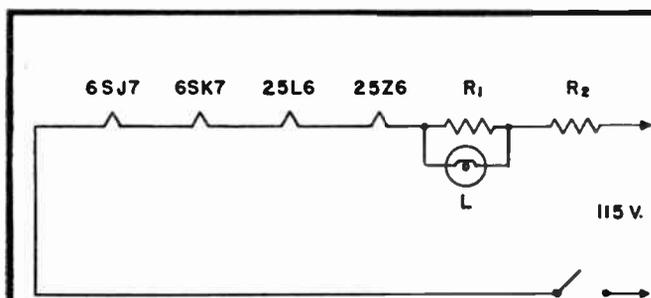

FIGURE 1
**O**HM'S Law is at once one of the simplest and most useful of all electrical laws applicable in servicing. No advanced knowledge of mathematics is required for its employment. For example, an ordinary filament circuit is shown in Fig. 1. The set might be one of those nameless wonders made in a back room somewhere. The ballast tube is "gone" and a replacement must be made. To determine the type of tube necessary and the resistance value of it, or to determine the values of a shunt resistor across the pilot lamp and of a series resistor between the lamp and the high side of the line, we may put Ohm's Law to work. From a tube chart, the filament current of the 25L6 is found to be .3 ampere. Bearing in mind the principle that the current is the same in all parts of a series circuit, the current in the other filaments will also be .3 ampere. A common mistake that beginners and early technical students make is to add the currents